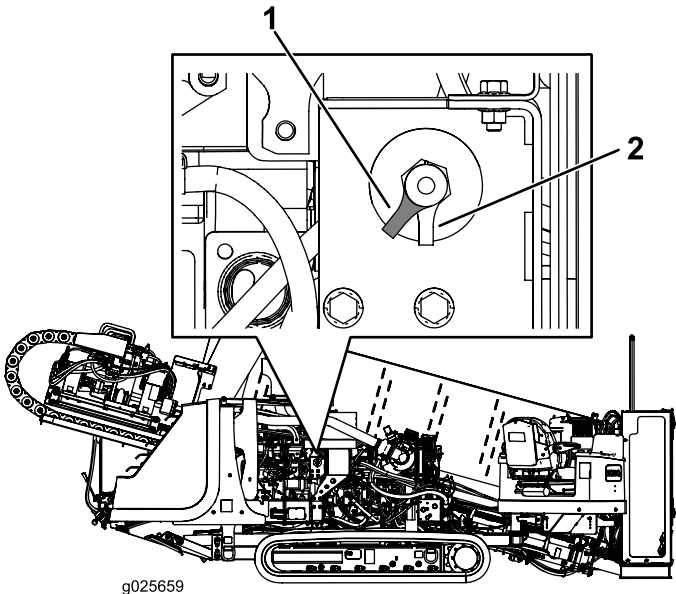

Figure 23
- To energize the machine electrically, rotate the BATTERY-DISCONNECT switch clockwise to the ON position (Figure 23).
- To de-energize the machine electrically, rotate the BATTERY-DISCONNECT switch counterclockwise to the OFF position (Figure 23).